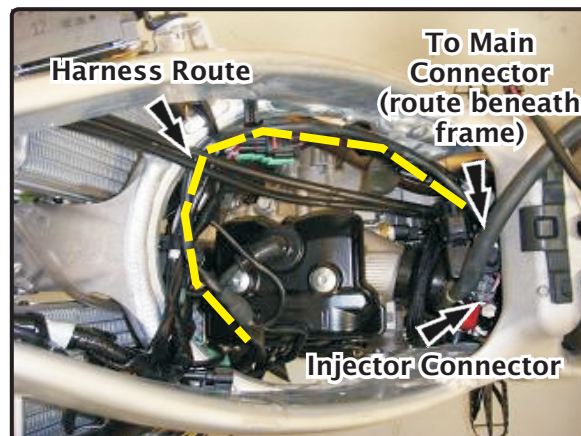

Fig. 1
- 3 Lay harness inside frame as shown in Fig. 1.
- 7 Disconnect injector connector and connect PIM2 injector connectors to harness and injector as shown in Fig. 1.